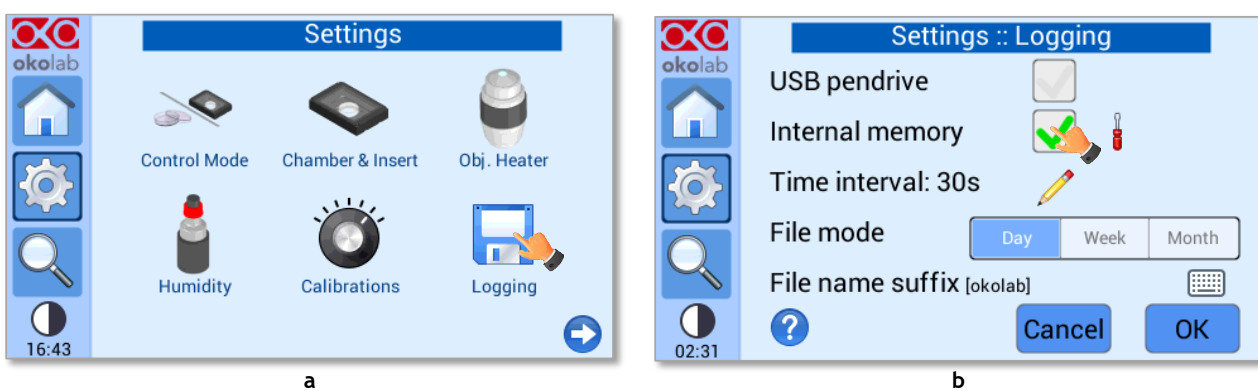

Figure 70. Settings – Logging - menu (a-b).
2. Flag *Internal memory* in the page that appears (see Figure 70).